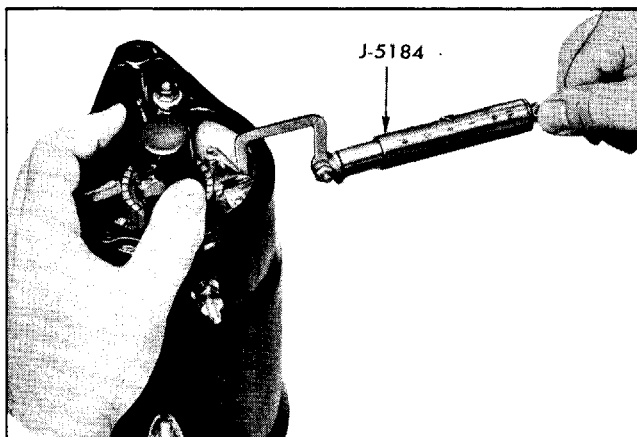

Fig. 12-14 Checking Brush Spring Tension
1. Place generator in bench vise; use vise as holding fixture only and be careful not to distort generator frame: **NOTE:** Check brush spring tension before disassembling generator to determine if spring is weak or brush holder is gummy (Fig. 12-14). Proper spring tension is approximately 28 ounces.